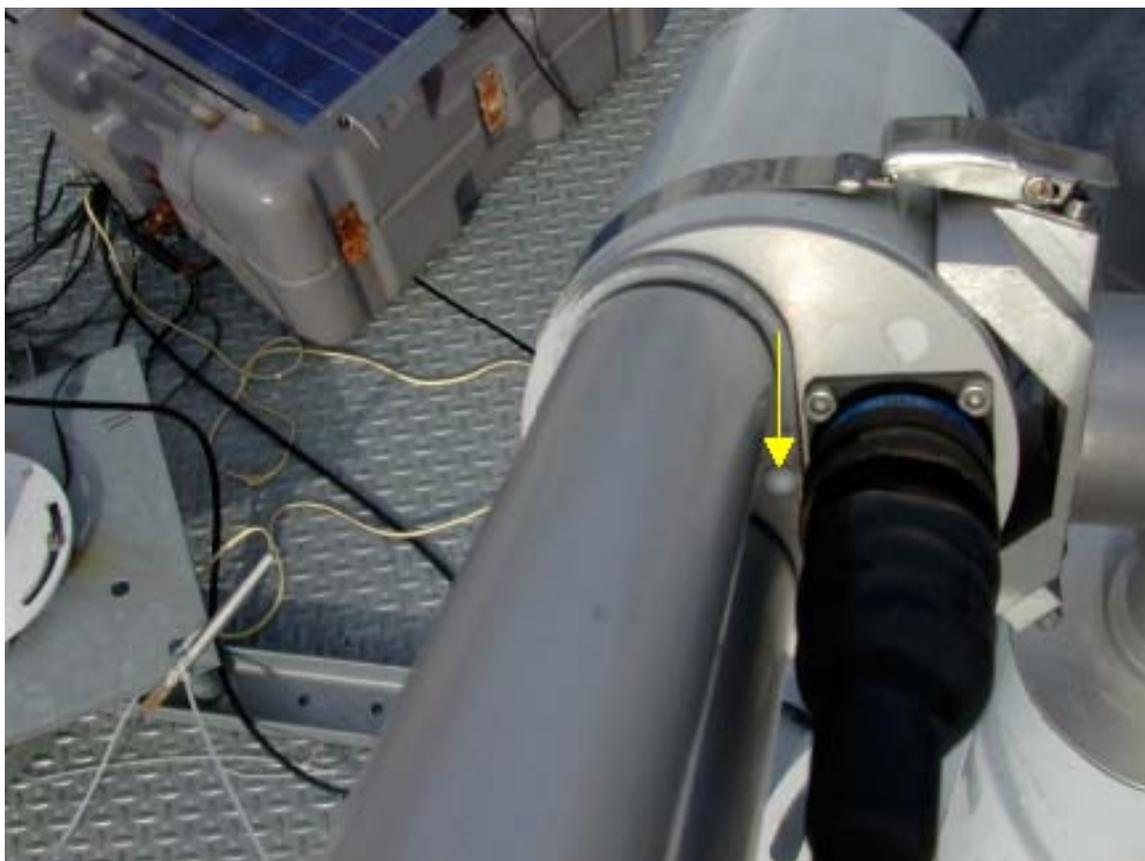

Figure 9: Sun spot from collimator centered on white alignment disk
9. The hole at the top of the collimator should allow the sunlight to illuminate the marker spot at the base of the collimator (FIGURE 9). When the bright spot is on the mark, the instrument is aligned. If it is off to the left or right, rotate the robot base to align it. After you rotate the robot, you will need to verify that the robot is still level as before.